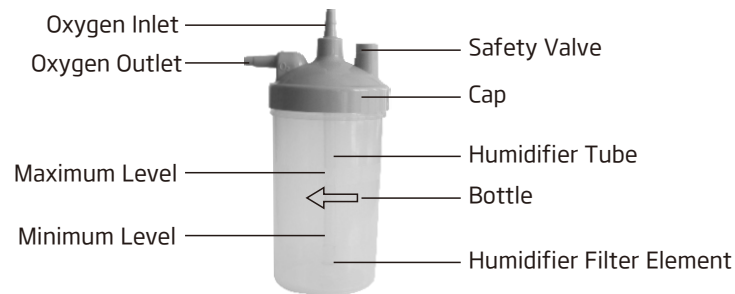

Figure 5: Humidifier Components
1. Unscrew the bottle from the humidifier clockwise. Fill the bottle with pure water (or distilled water) to the level between MAXIMUM and MINIMUM. DO NOT fill humidifier bottle over MAXIMUM level. (Figure 5)